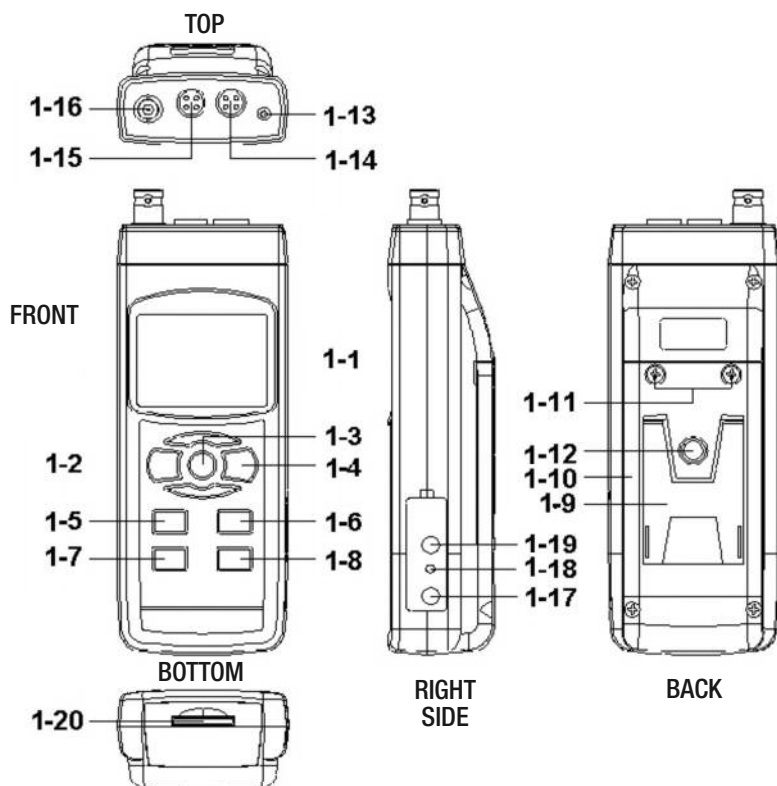

Fig. 1. The WK2017SD's controls and indicators and other physical features
Figure 1 shows all of the controls and indicators on the front, back, top, bottom and right side of the WK2017SD. Familiarize yourself with the positions and functions of these controls, indicators and connectors before moving on to the setup procedure.
1. Insert the plug of a pH electrode into the BNC socket at the top of the meter (callout 1-16 of Fig. 1).
- 2. Plug the probe into its dedicated socket** on the top of the meter (callout 1-15 of Fig. 1). Then power on the meter and push the ▼ button (which has the word “MODE” stenciled above it) until the display shows the term “Cd”.
To calibrate an oxygen probe, use the following procedure while referring to Figures 1 and 4.
(callout 1-14 of Fig. 1) on the top of the meter.